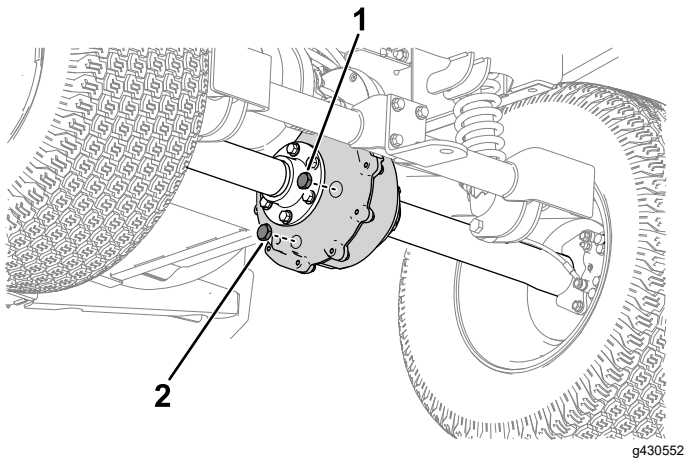

Figure 47
1. Align a drain pan under the transaxle drain plug (Figure 47).
2. Remove the fill plug (Figure 47).